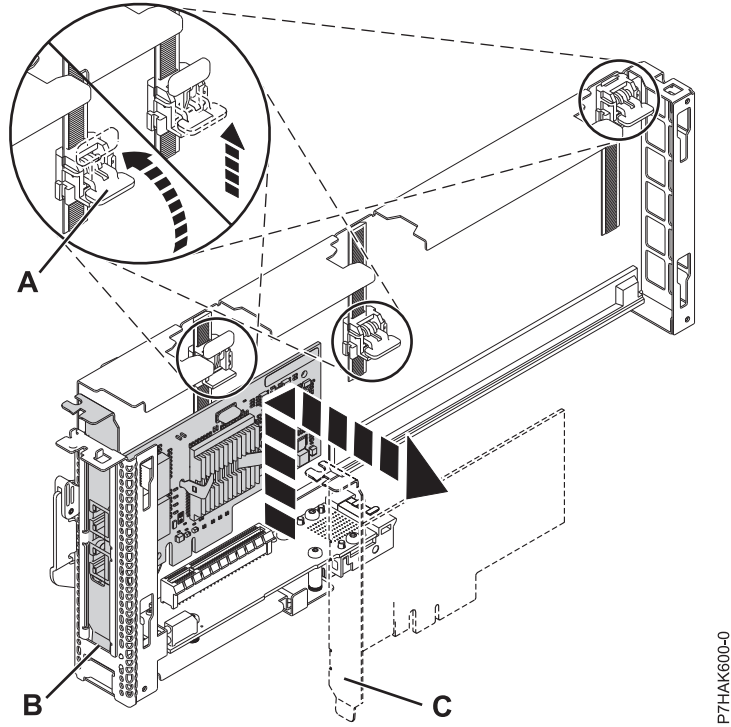

Figure 25. Adapter removed from the PCI adapter cassette
- a. Unlock the adapter retainers by rotating the retainer clips (A) into the horizontal position. See Figure 25 on page 35.